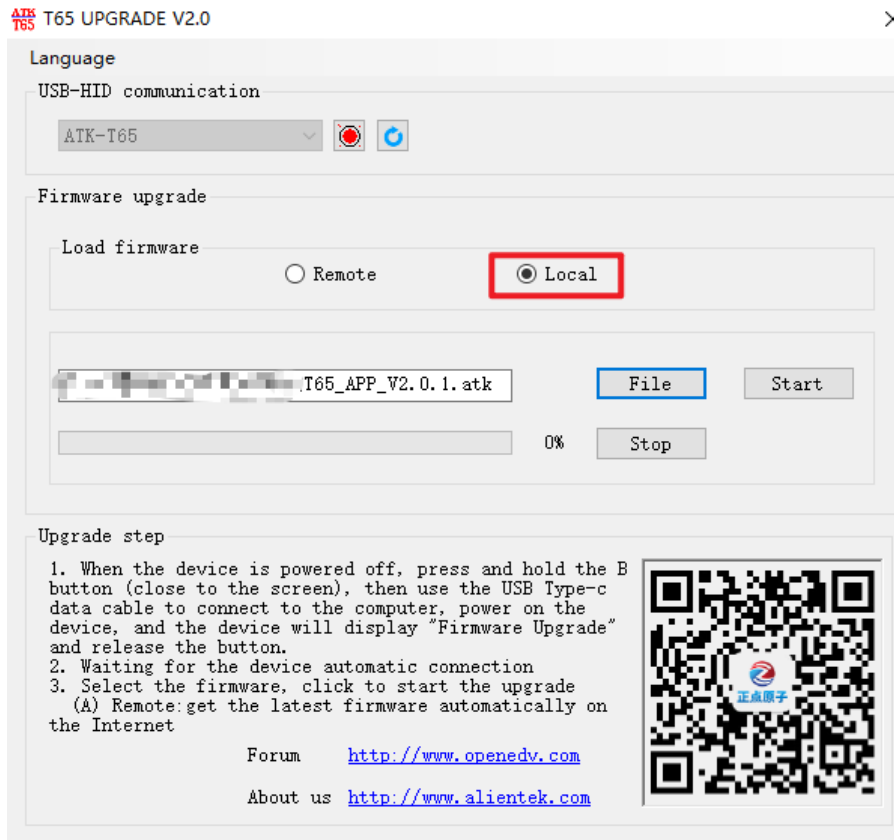

Figure 6-7 Connection
Step 4: Firmware select local load, open the downloaded firmware, click Start upgrade, wait for the upgrade to complete. The operation is shown in Figure 6-7 below: